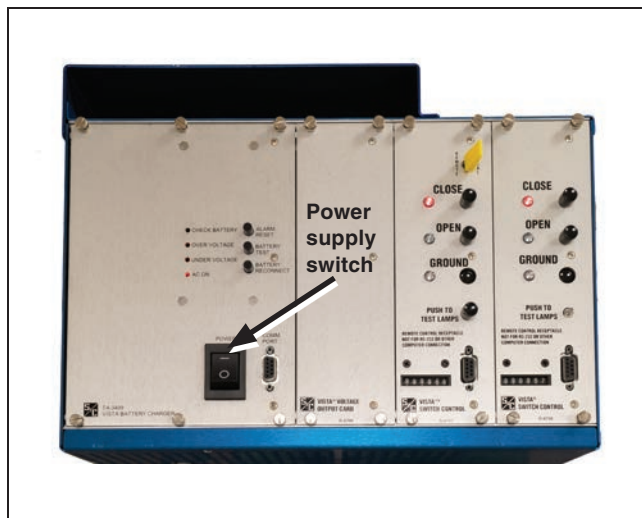

Figure 68. Turning on the power supply.
STEP 1. When all preceding steps have been successfully completed, turn on the power supply power switch. See Figure 68. This will connect ac power to the battery charger and to the motor operator controls.